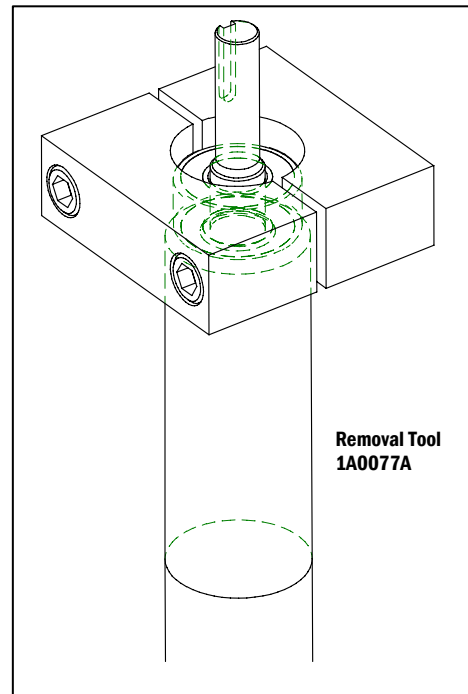

Figure 3
d. Remove the Drive Bearing from the bearing journal on the drive pulley by using a press and QC Industries removal tool (PN: 1A0077A) or similar. Mount removal tool as shown (Figure 3). Removal tool can be purchased from QC or a print can be provided upon request.